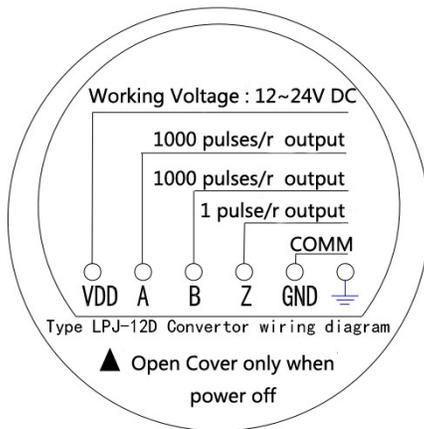
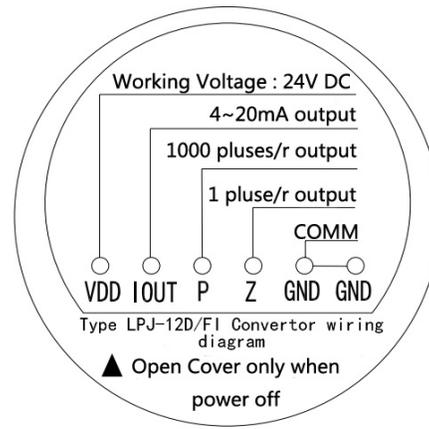

Fig.3 Type LPJ-12D Converter Terminal Diagram
Fig.4 Type LPJ-12D/FI Converter Terminal Diagram
#### (3) Cable Installation (see Fig.3 and Fig.4)